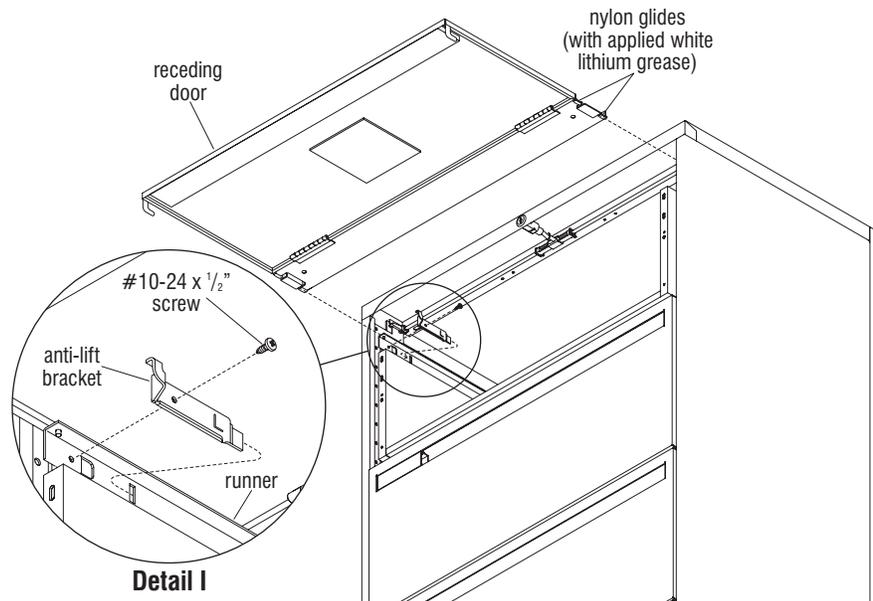

Figure 8
1. The receding door has nylon glides at the back which may be replaced if needed. See page 3 and reference step 5 for details. Apply a thin film of white lithium grease to the upper and lower surfaces of the glide before installing receding door (Figure 8).
2. To install the receding door, position the unit such that the upper tabs (with nylon glides on each side) go over the top of the upper flanges of the runners, and the longer bottom tabs of the receding door go under the top flanges (Figure 8).
3. Slide door into the cabinet such that the front edge protrudes approximately 3 to 4 inches out of the cabinet. Install anti-lift brackets to each side of the runners by routing the back tab of the bracket into the corresponding slot in the runner as shown. Rotate anti-lift bracket into place and secure using a #10-24 x 1/2" sheet metal screw as shown (Figure 8 & Detail I).